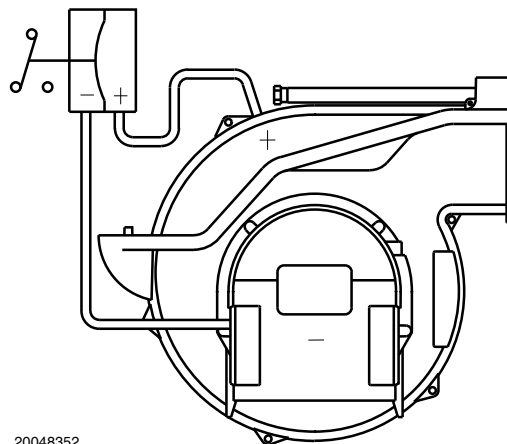

Fig. 44
- Adjust the air pressure switch to the zero position of the scale (Fig. 44).
The air pressure switch is connected in differential (Fig. 44) and is activated by both the negative pressure of the air intake and the air pressure from the fan.